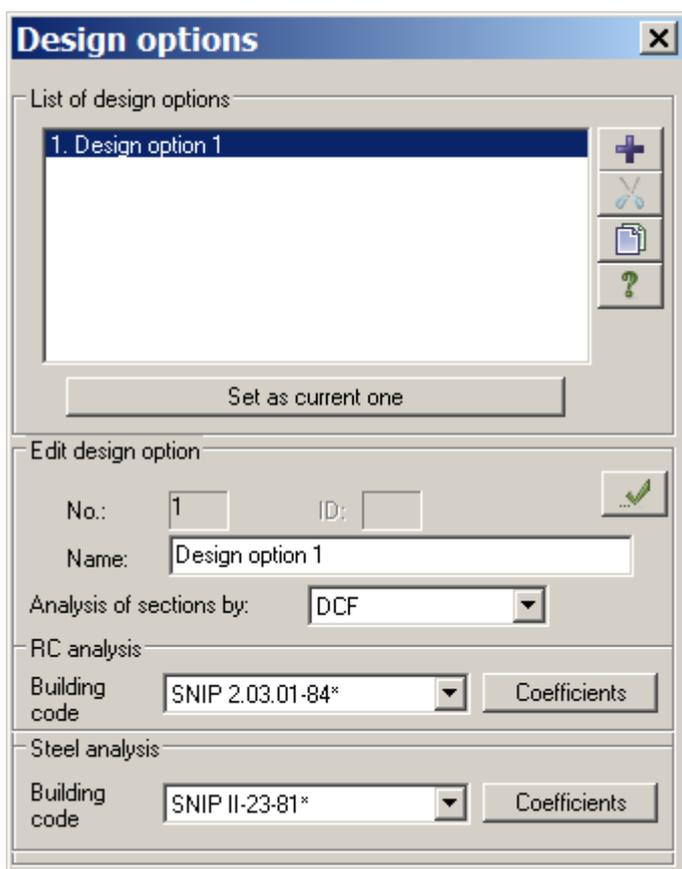

Figure 4.11 **Design options** dialog box
- ⇒ In the **Design options** dialog box (see Fig.4.11), define parameters for the first design option:
To create new design option, click **Create new design option** button . Then in the **Design options** dialog box (see Fig.4.11), define all necessary parameters for new design option.